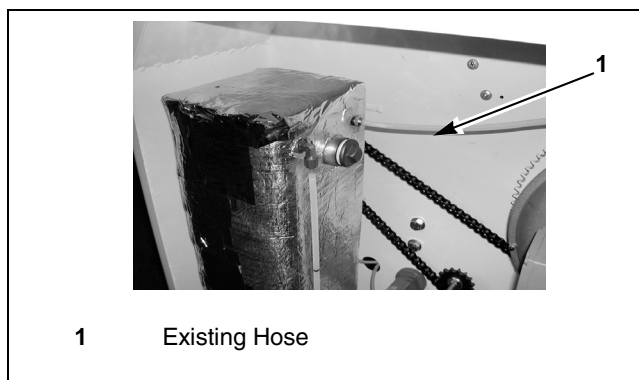

Figure 8
1. Take off existing hose. Do not throw away. Refer to *Figure 8*.